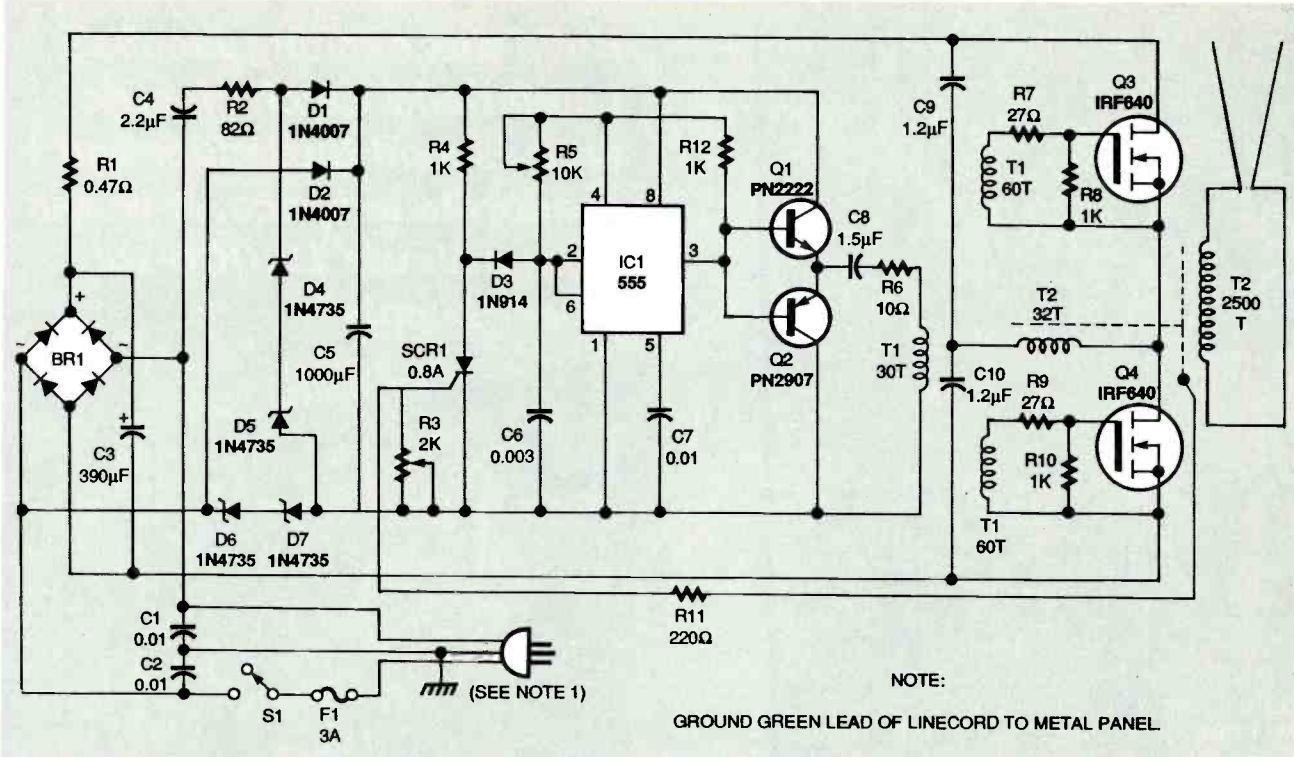

FIG. 1—SCHEMATIC FOR HIGH-VOLTAGE power supply. All components except transformers are standard.
The operation of the Jacob's Ladder depends on the current-limited power supply that delivers 12,000 volts at 40 milliamperes from the 120-volt AC line. Refer to the schematic Fig. 1. The full-wave bridge BR1 rectifies the 120-volt AC line input, and resistor R1 limits the DC charging current of capacitor C3 to a safe value. The Jacob's Ladder project is powered by 150 to 160 volts DC derived from the 120-volt AC line.
The 555 timer IC1 is configured as a square-wave oscillator. The output frequency of its square waves is determined by the setting of trimmer potentiometer R5 and capacitor C6. The frequency is about 25 kHz for the values of R5 and C6 shown in Fig. 1. Resistor R12 limits the high-frequency setting to an acceptable value. Potentiometer R5 can be used to adjust the circuit's power output. Increasing the frequency reduces the circuit's output by increasing the inductive reactance of the transformer leakage inductance.
This power supply permits better control of its output voltage than a typical linear power supply, and it can function either as a constant-voltage or constant-current source. Both functions can be set by a potentiometer with a voltage range of 0 to 10 volts and a current range of 0 to 1.0 amperes. Figure 1-a is a block diagram of the basic regulator circuit.
A constant-current mode can be set to control the current for electroplating. This control is critical for achieving uniform deposition of metal. This mode also permits the user to compensate for electrolyte loss that occurs during electroplating. Figure 1-b is the block diagram for the measurement circuit for the power supply. It monitors the output allowing either the voltage or current value to be read on a two-digit LED digital display.
**FIG. 1—BLOCK DIAGRAM OF REGULATED POWER SUPPLY CIRCUIT:** Basic regulator circuit (a), and measurement circuit (b). Current and voltage or charge can be measured. Values can be read on the LED digital display.